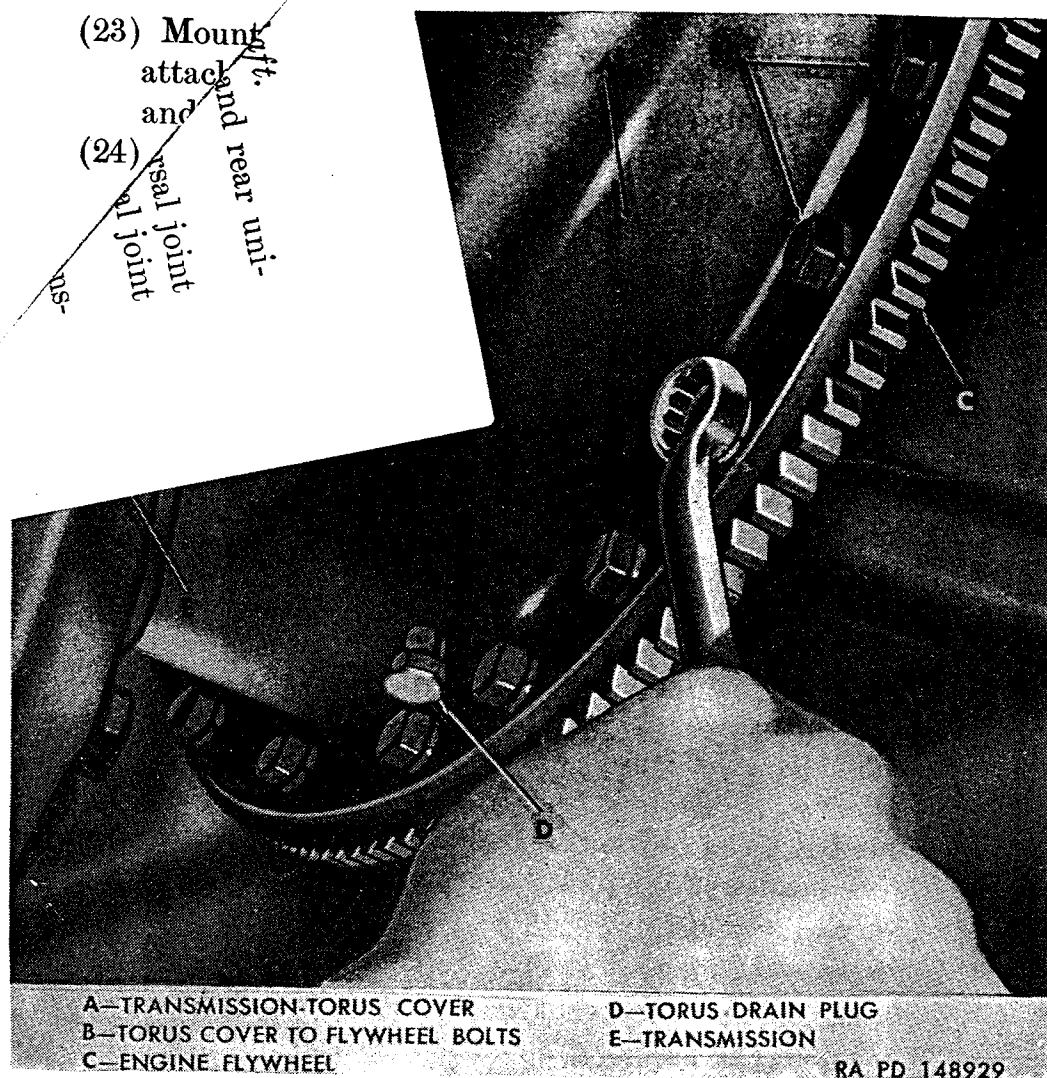

Figure 206. Removing torus-cover-to-flywheel bolt.
- (1) *Remove torus-cover-to-flywheel attaching bolts.* Through opening provided previously by removal of flywheel housing lower cover, remove 30 torus-cover-to-flywheel attaching bolts (B, fig. 206) and lockwashers. Turn engine to turn flywheel to gain access to all bolts.